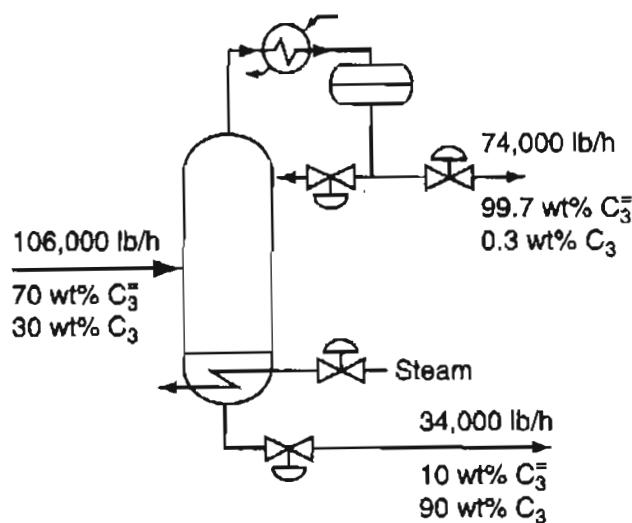

Figure P6.6
- *6.6 Distillations columns are used to separate light boiling components from heavier boiling components, and makeup over 95% of the separation systems for the chemical process industries. A commonly used distillation column is a propylene-propane splitter. The overhead product from this column is used as a feedstock for the production of polypropylene, which is the largest quantity of plastic produced worldwide. Figure P6.6 shows a diagram of a propylene-propane splitter (C_3^- refers to propane and C_3^+ refers to propylene). The steam is used to provide energy, and is not involved in the process material balance). Assume that the composition and flow rates listed on this diagram came from process measurements. Determine if the overall material balance is satisfied for this system. Evaluate the component material balances as well. What can you conclude?